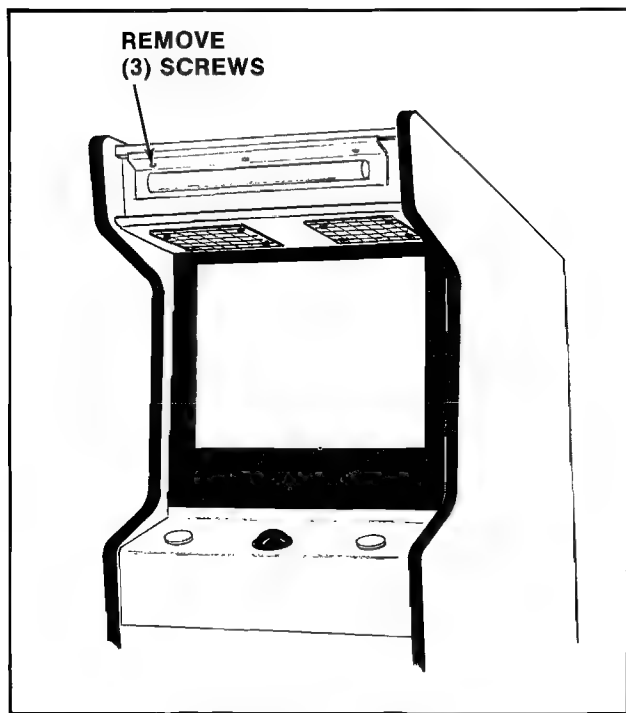

Figure 28 Replacing fluorescent light mounting bracket — Upright game
- Replacement of the fluorescent tube mounting bracket assembly. See Figure 28.